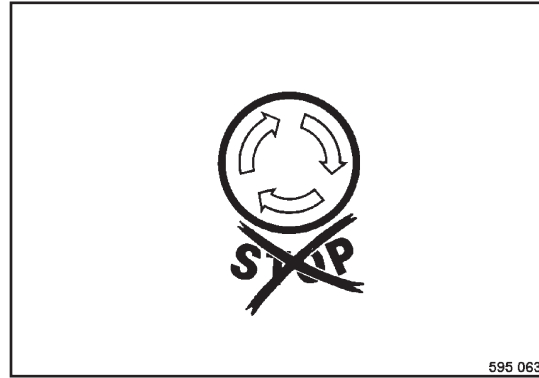

Fig. 35
- Check, whether the emergency stop switch (Fig. 35) is unlocked.